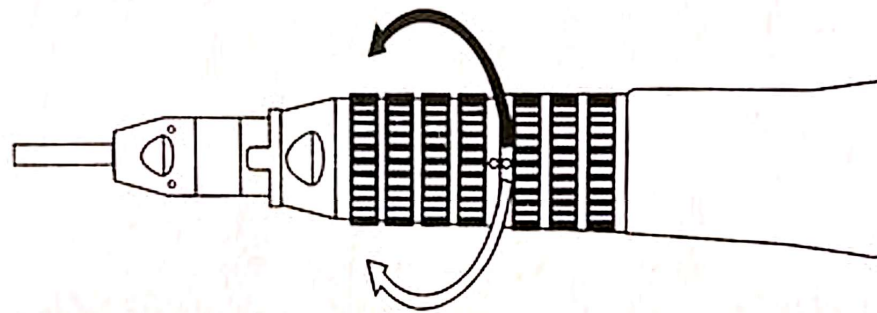

Fig.2
Insert a bur into the chuck.(Fig.2)
- (2) Return the Bur Lock Ring to the original position until a click sound is heard.(Fig.2)